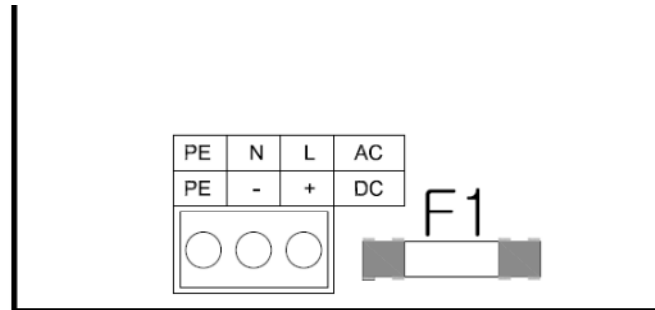

Figure 4 Mains cable connection
2.3.5 Connecting the mains (see fig 4)
3. Connect the mains PE cable (green/yellow) to the AC input connector, terminal PE, located on the circuit board, see Figure 4